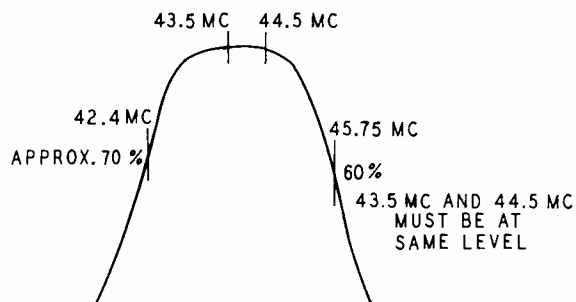

Fig. 5—Pix I-F Response From 1st Pix I-F Grid
2. With approximately -7.0V bias on AGC line (junction of R-212 and C-213) connect sweeper to 1st I-F grid (Pin #1-V4). Reduce sweeper output to compensate for additional gain of 1st stage (4.0V. P-P on oscilloscope). Adjust 1st I-F transformer primary (top) and secondary (bottom) for maximum gain and symmetry with 45.75 mc marker. (See Figure 5.)